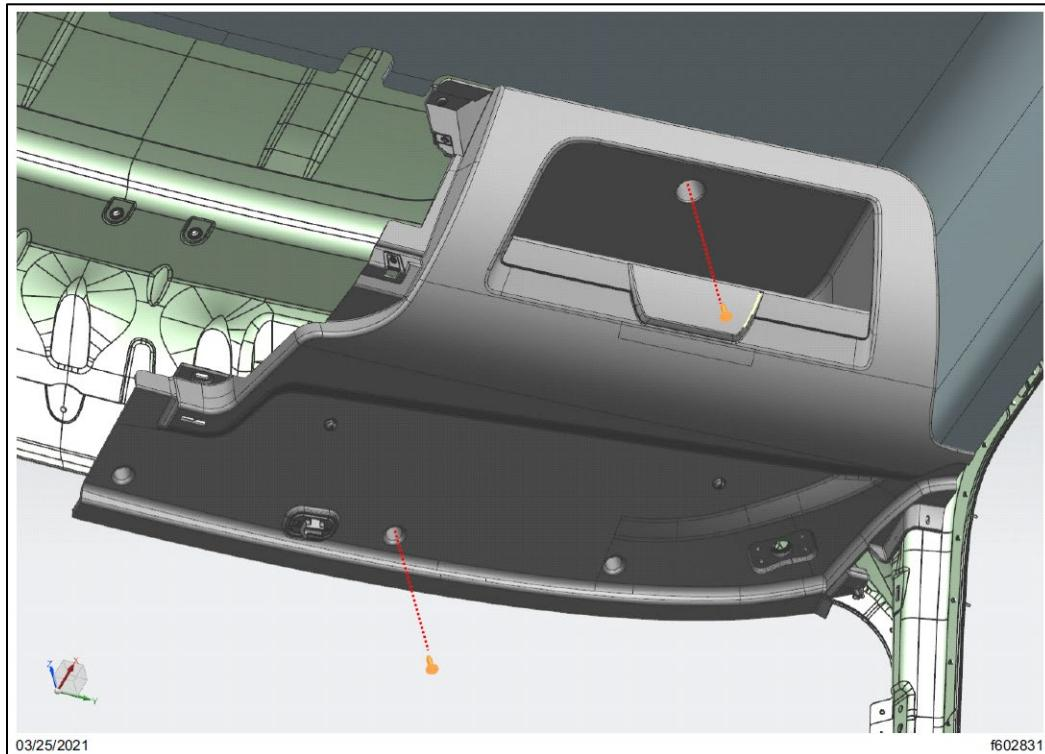

Fig. 20, Fasteners Attaching RH Side Overhead Storage Cabinet to the Cab Roof
3.2. Remove the two fasteners that attach the RH side overhead storage cabinet to the cab roof, and then remove the RH Side overhead storage cabinet from the vehicle. See Fig. 20.